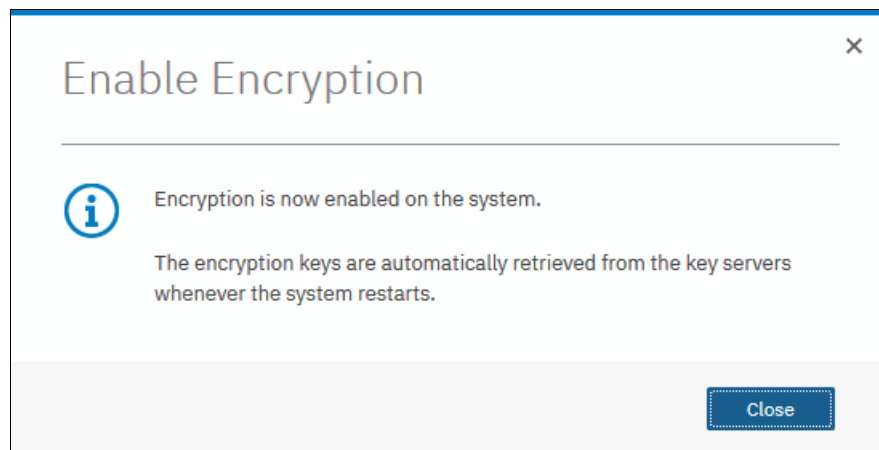

Figure 13-39 Encryption enabled message using an SKLM key server
11. If no errors occurred while the key server object was created, you receive a message that confirms that the encryption is now enabled on the system, as shown in Figure 13-39. Click **Close**.